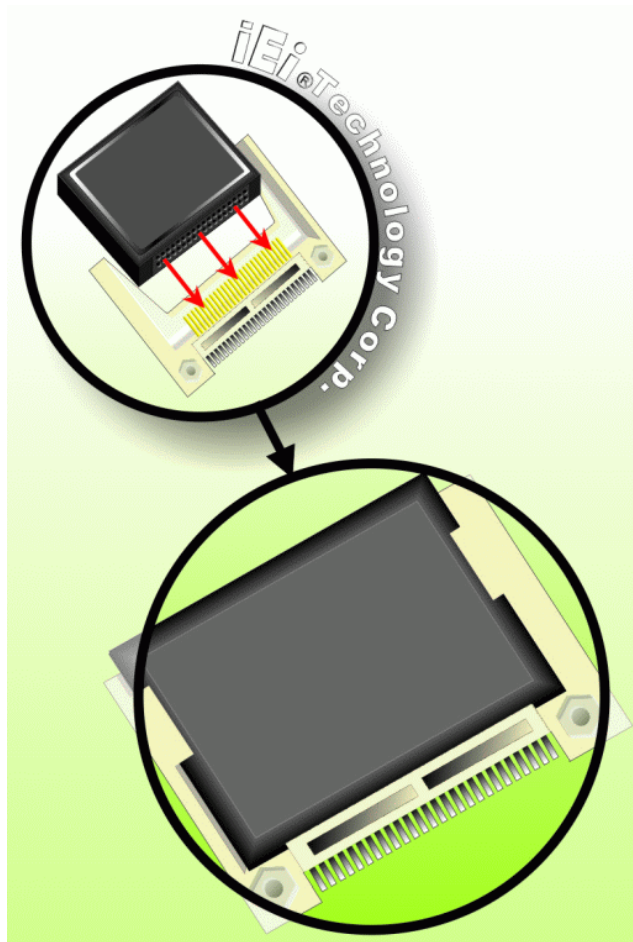

Figure 4-2: CF Card Installation
- Step 3:** **Insert the CF card.** Gently insert the CF card into the socket making sure the socket pins are properly inserted into the socket. See Figure 4-2.